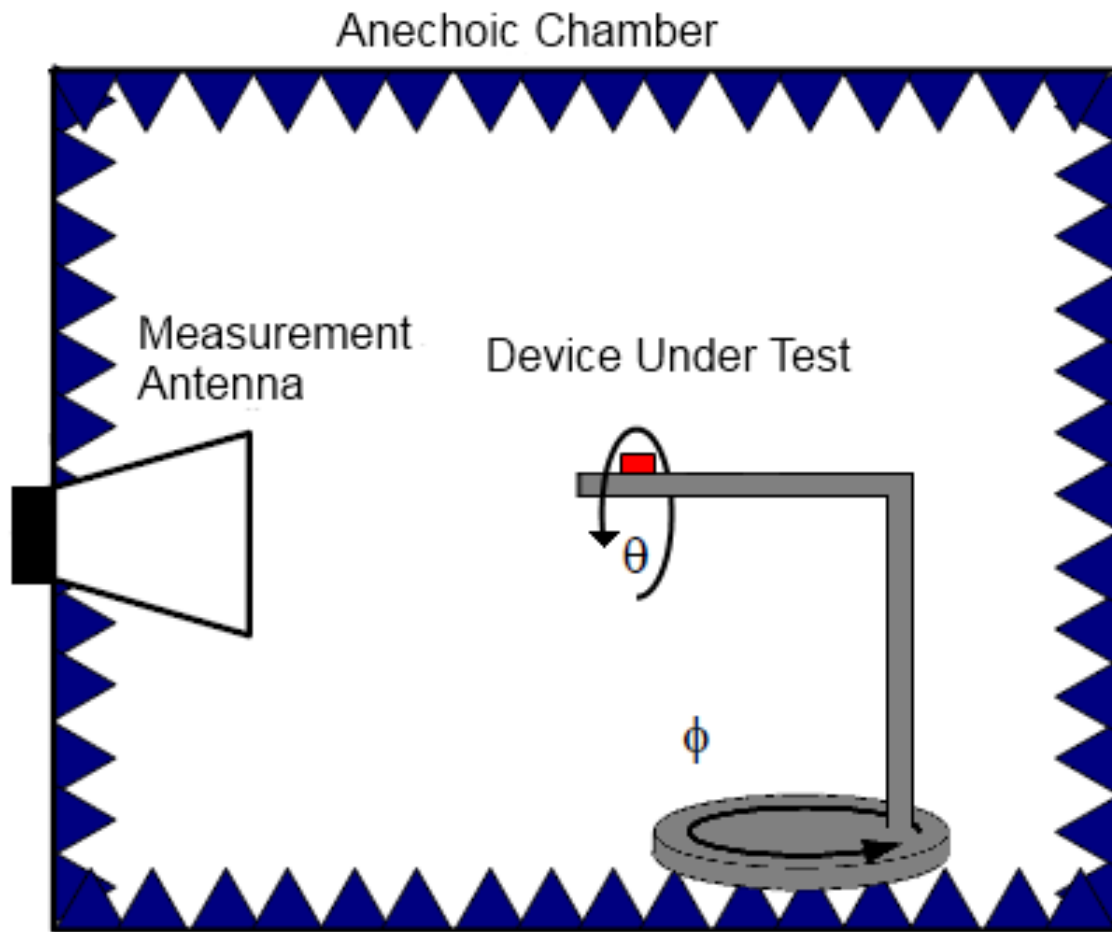
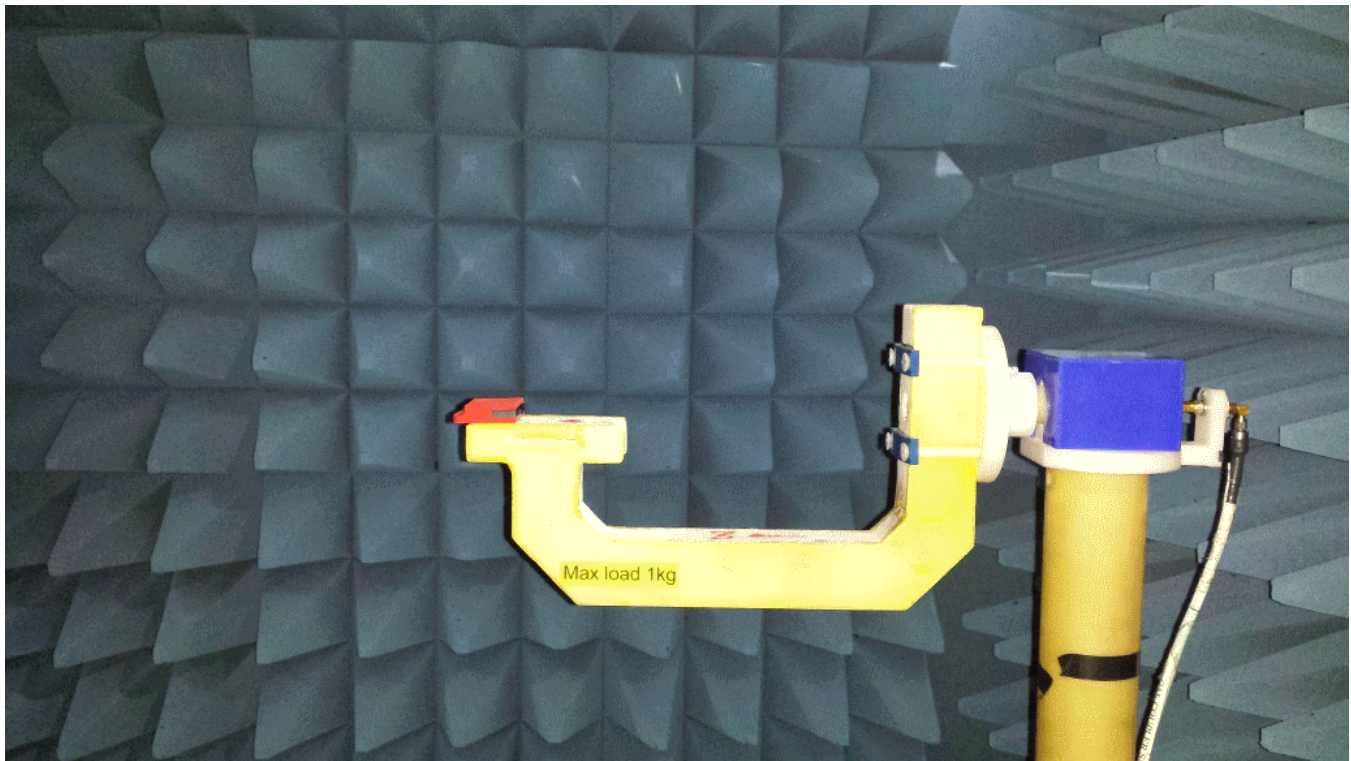
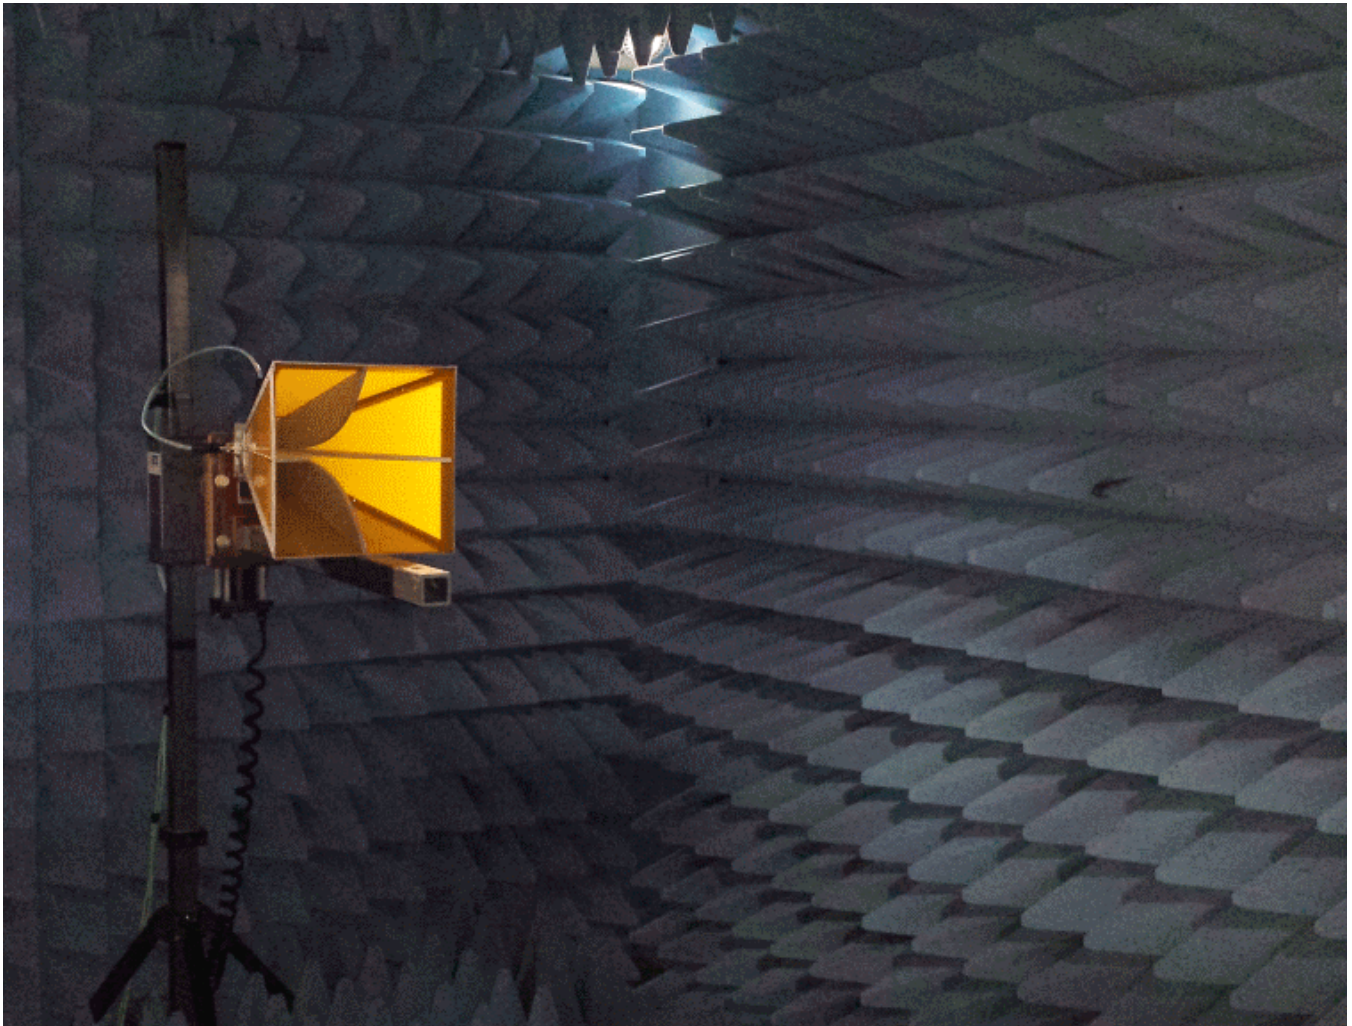

Figure 6. Antenna Radiation Pattern
Figure 7. DUT Mounted On Rotating Arm
Figure 8. Measurement Antenna
We measured the antenna radiation pattern in a 3-m long RF shielded room (an anechoic chamber). The device under test (DUT) was set in transmit mode and rotated around to create a 360° antenna radiation pattern. The measurement antenna was placed in the opposite side of the chamber. The DUT transmitted a continuous wave (CW) at 2440 MHz and the antenna measured the wave with 15° steps in azimuth and elevation. Figure 6, Figure 7, and Figure 8 show the test set up.